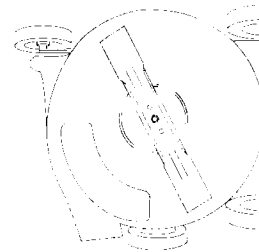

Figure 19
3. Tip the lawn mower onto its **right** side (air filter up) (Fig. 19).
2. Tip the lawn mower onto its **right** side (air filter up) (Fig. 19).